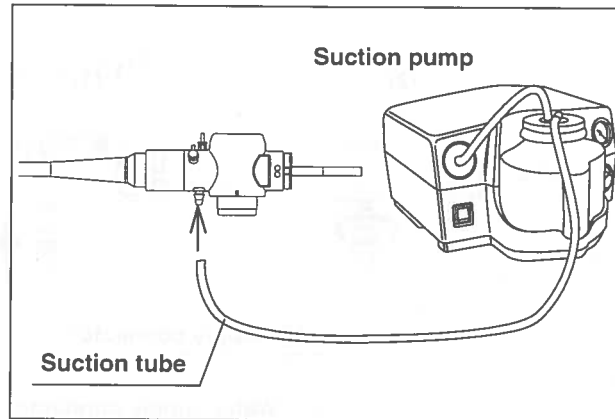

Figure 3.17
7. Connect the suction tube from the suction pump to the suction connector on the endoscope connector (see Figure 3.17).